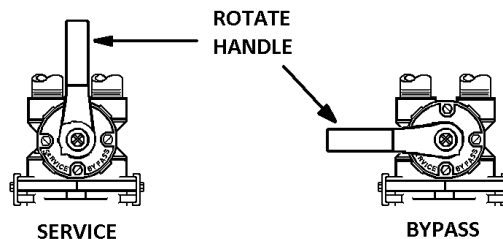

FIGURE 4: Stainless Steel Bypass Valve Operation
- STEP 9:** Place bypass valve in the "Bypass" position (refer to Figure 4 below). Open main supply valve or turn on power to pump on private well systems.
- STEP 11:** Refer to Figure 4 (page 5) for appropriate bypass valve operation. Rotate bypass lever of stainless steel bypass $\frac{1}{4}$ of the way to Service allowing unit to fill slowly. Filling the mineral tank in this position will force any trapped air to the drain. Fully open bypass valve to the “Service” position.